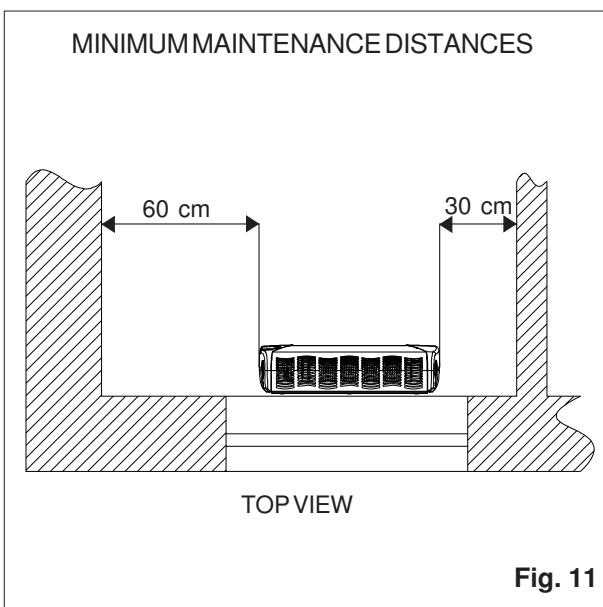

Fig. 11
e) if the appliance is installed under a window or under a shelf, make sure that the sill or the shelf does not obstruct the flow of warm air; it is recommended that a distance of at least 20 cm is maintained. For this reason and to make maintenance easier, the air heater should not be installed inside niches or in positions where it is difficult to access. The clearances indicated in *fig. 11* should be observed.